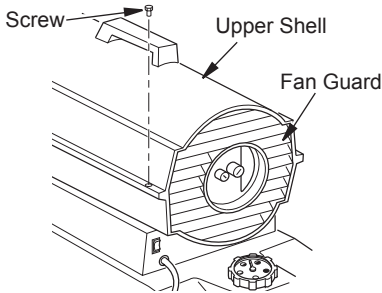

Figure 11 - Upper Shell Removal, 40/55/70 Models Only
1. Remove screws along each side of heater using 5/16" nut-driver. These screws attach upper and lower shells together. See Figure 11 or 12.
1. Remove upper shell (see Figure 11 or 12).